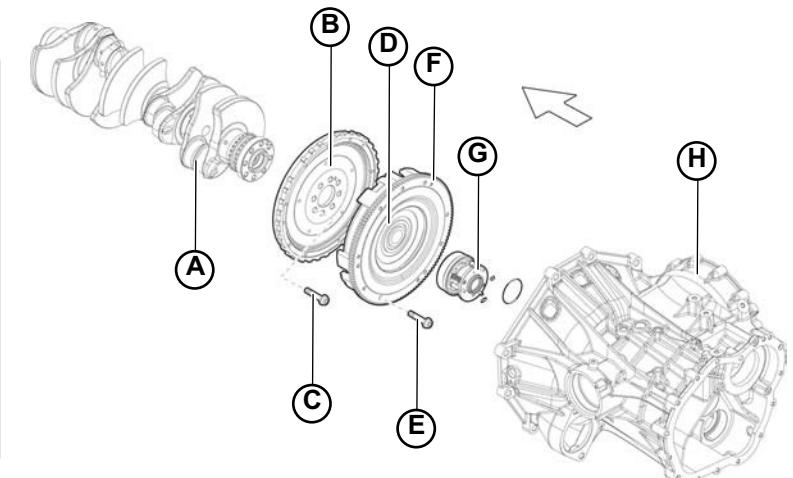

Fig.1
Clutch (Fig.1)
1. Assemble the phonic wheel (F-Fig.1/2) on the flywheel (B-Fig.1/2) using the 3 mounting screws (I-Fig.2).
4. Secure the flywheel onto the crankshaft using the 10 mounting screws (**C-Fig.1/4**).
Apply System 52A43 medium thread sealant and tighten the 9 screws (E-Fig.1) in the clockwise order indicated by the numbers in Fig.6.